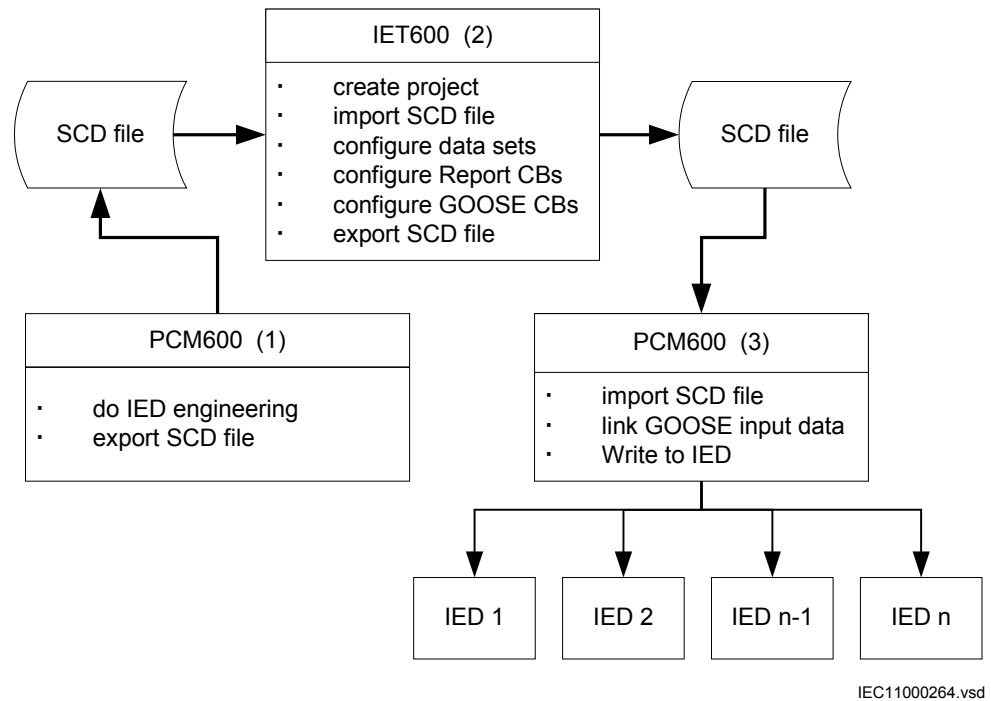

Figure 62: IEC 61850: Signal engineering procedure flow
A short form of a typical sequence is shown in Figure 62 when a complete station is exported as a SCD file.
1. Export SCL files from PCM600. In the scenario in Figure 62 it is a SCD file. Other SCL file types are possible to export.
3. Import SCL files to PCM600 project. In the scenario in Figure 62 it is the updated SCD file.